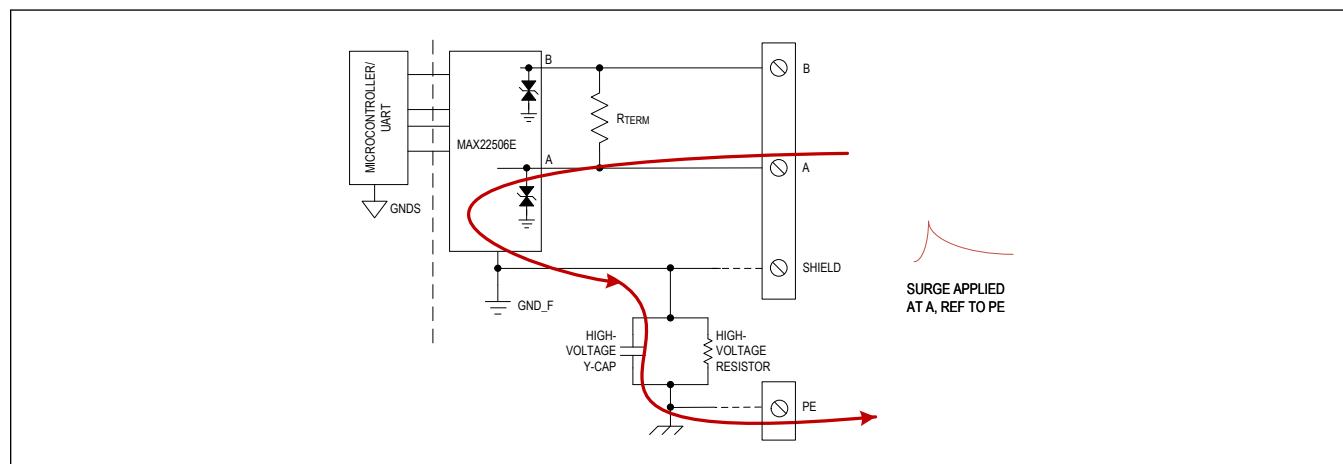

Figure 13. Surge Protection
Per the IEC 61000-4-5 standard, surge pulses must be referenced to protective earth (PE). Isolate PE from the field ground and connect a high-voltage capacitor and a high-voltage resistor between the field ground and PE. Figure 13 shows the current flow through the transceiver and PCB during a surge event. The MAX22506E survived 8/20 μ s surge testing up to \pm 2kV/42 Ω with a 1000pF high-voltage capacitor without the need for external TVS protection.